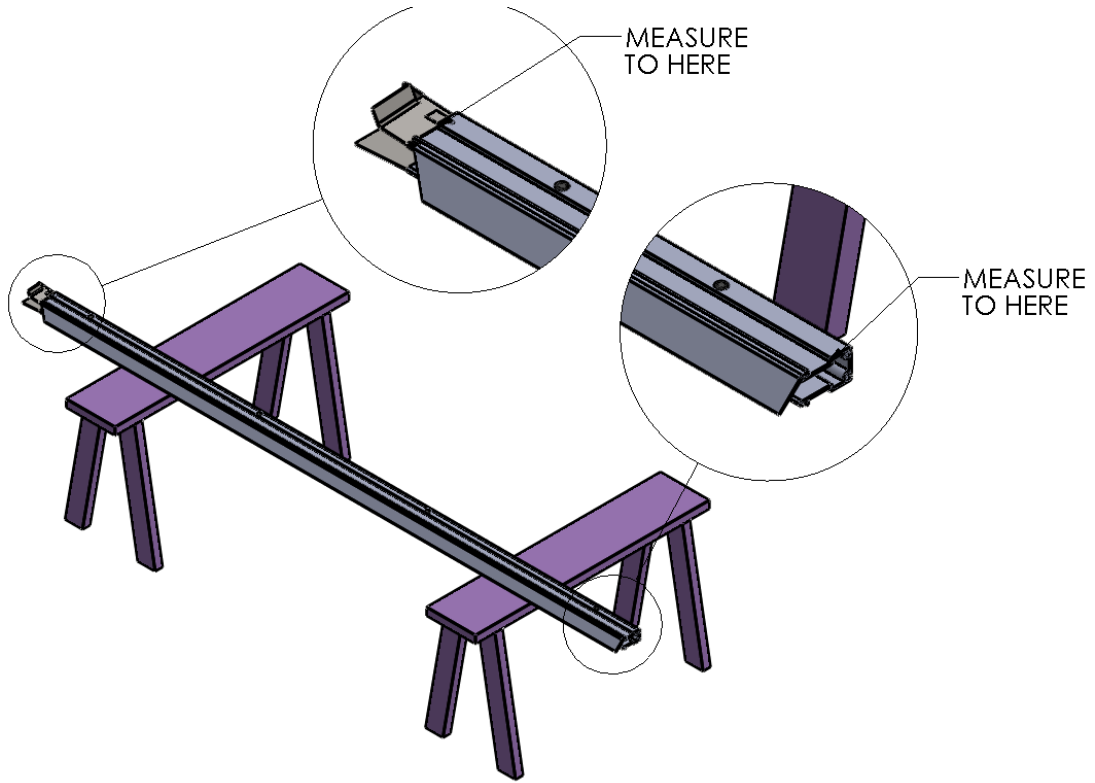
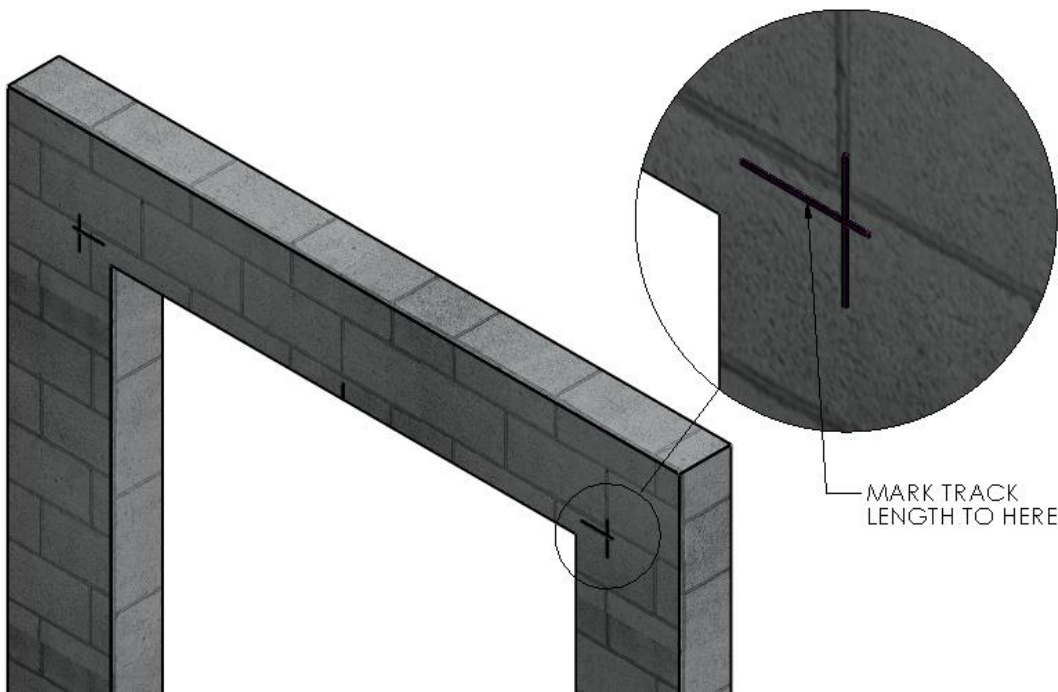

Figure 4 MEASURE TRACK HEIGHT
Figure 5 MARK TRACK HEIGHT
5. Set one of the Vertical Track Assemblies on your work surface and measure the length of the vinyl Track only. ADD 3-1/4" to this number and take note. This is the height dimension needed to mark the location of the bottom edge of the Header Mounting Brackets. With this number, add a horizontal line on each side of the opening that intersects the previously drawn vertical line marking the overall width of the roll assembly. (Figure 4 MEASURE TRACK HEIGHT) (Figure 5 MARK TRACK HEIGH)